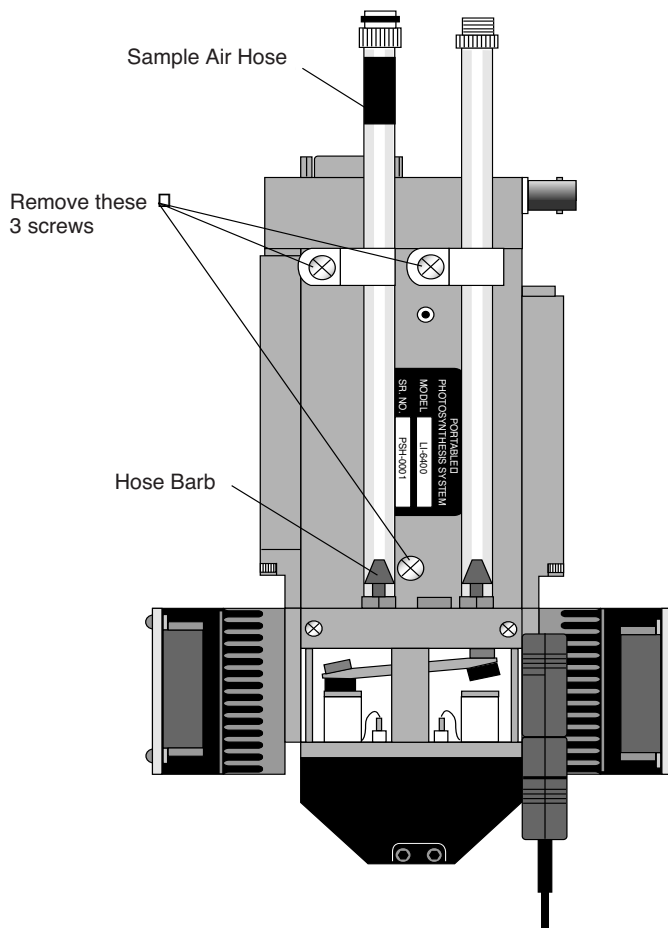

Figure 28-7. Preparing to remove the bottom plate.
- a) Turn the sensor head over and remove the 3 Phillips head screws as shown in Figure 28-7.